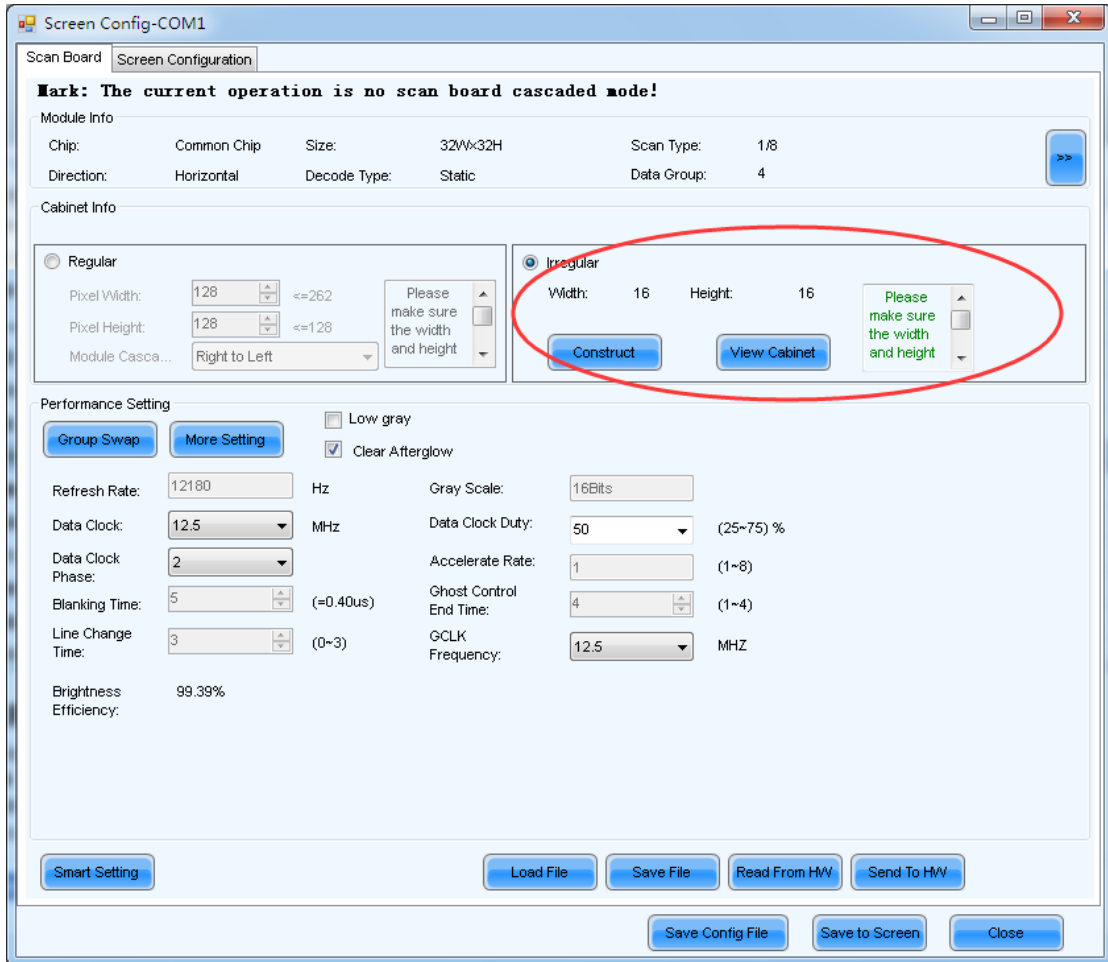
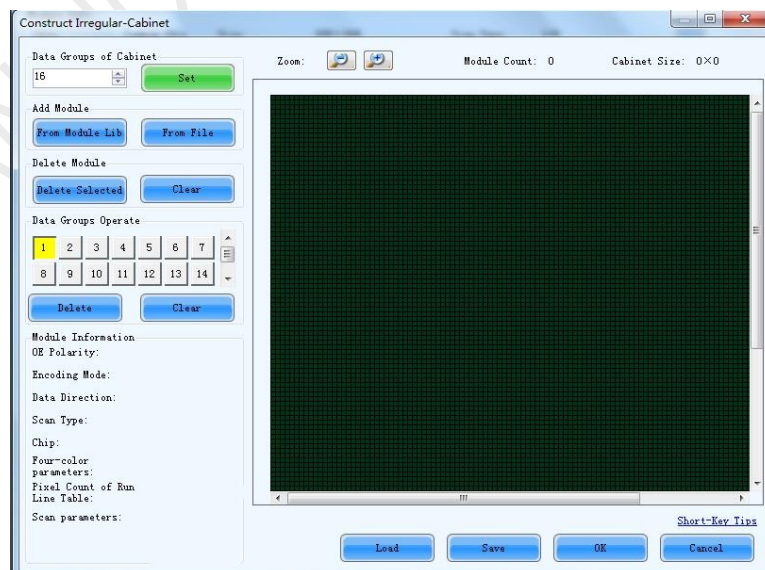

Figure 6 Scan Board page
Figure 7 Construct Irregular-Cabinet page
6. In the Scan Board page, select Irregular and click Construct button. The Construct Irregular-Cabinet window will be opened after clicking the Construction button. The Irregular option and the Construction button are circled in Figure 6 and the Construct Irregular-Cabinet window is as shown in Figure 7.